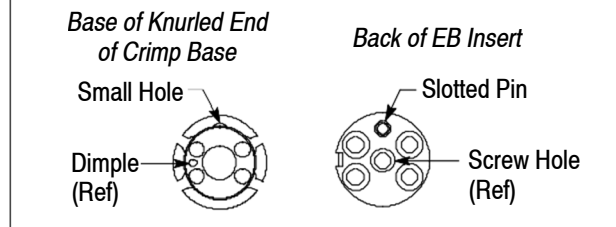

Figure 10
3. Align the end of the ferrule assembly with the appropriate channel cavity of the EB insert, then insert the ferrule assembly into the channel cavity until the O-ring is against the channel cavity. See Figure 10, Detail A. To avoid damage to the fiber, DO NOT push the cable to install the ferrule assembly.
4. Using the ferrule insertion tool, push on the spring until the ferrule assembly bottoms in the channel cavity (the O-ring will be inside of the cavity, and the spring will protrude slightly from the cavity). See Figure 10, Detail A.
5. Slide the crimp base over the cables (and strength members) until it is against the springs (in the EB insert) — make sure that the small hole on the flange at the base of the knurled end of the crimp base aligns with the slotted pin at the back of the EB insert. Refer to Figure 10, Detail B.